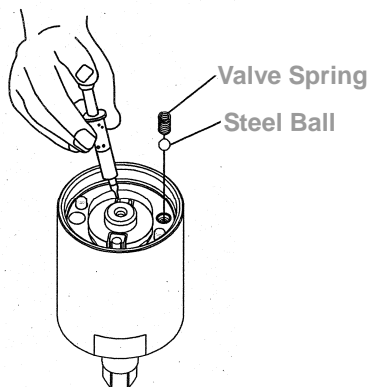

Fig. 425
- ③ Fill up the interior pulse cylinder with the pulse oil about 90% full by an injector. Put the steel ball and the valve spring into the hole on the pulse cylinder in order. (Fig. 425)